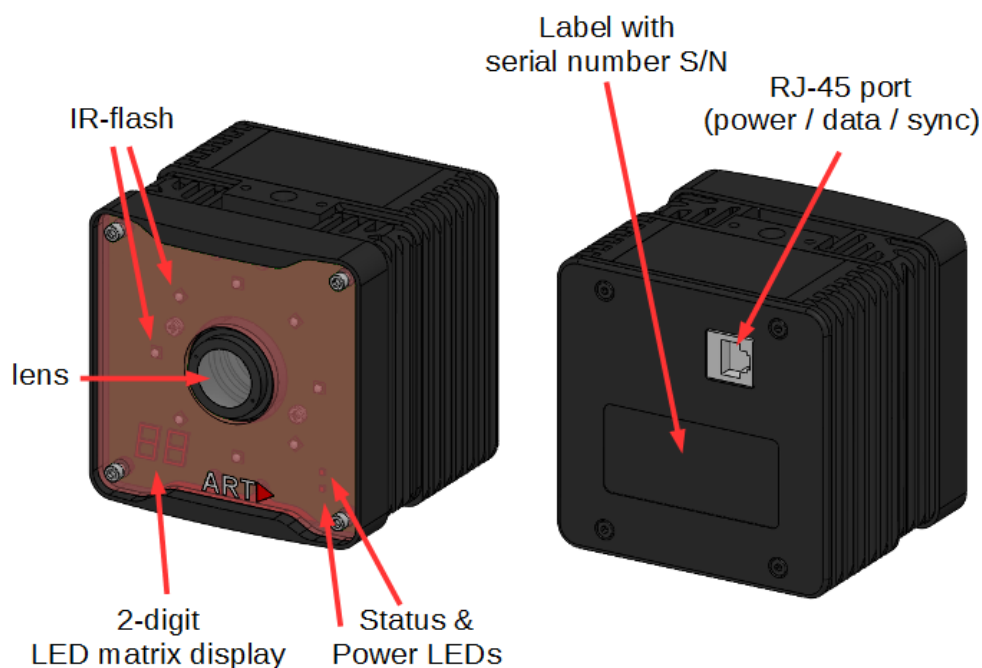

Figure 4.2: Camera *ARTTRACK5* - Description of LEDs and interface connectors
**Description** The *ARTTRACK5* infrared camera is intended for working environments with distances between camera and markers of up to 7.5 metres (see figure 4.2 on page 26). By default the *ARTTRACK5* is equipped with a 3.5 mm lens. Depending on the application and the setup the *ARTTRACK5* can be equipped with other lenses (i.e. with different focal lengths). Refer to A.1 on page 125 for a list of available focal lengths and the respective Field of View.